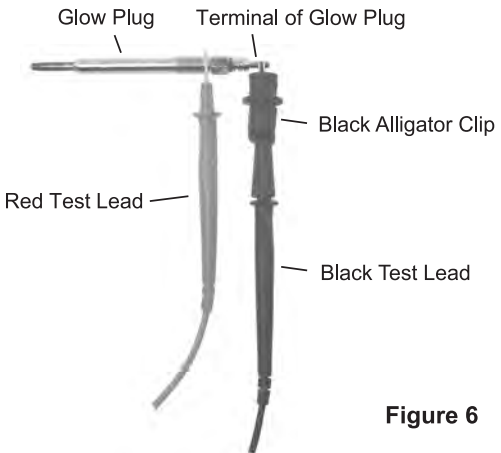

Figure 6
5. Refer to Figure 6, connect the black alligator clip to the terminal of the glow plug and red test lead probe to the metal shell of the glow plug.